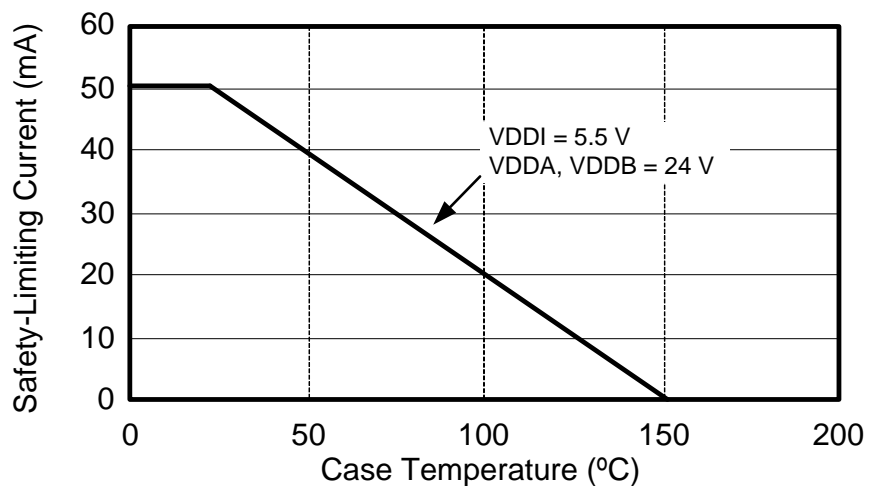

Figure 7. WB SOIC-16, NB SOIC-16, 14 LD LGA Thermal Derating Curve, Dependence of Safety Limiting Values with Case Temperature per DIN EN 60747-5-5
1. Maximum value allowed in the event of a failure. Refer to the thermal derating curve in Figures 7 and 8.